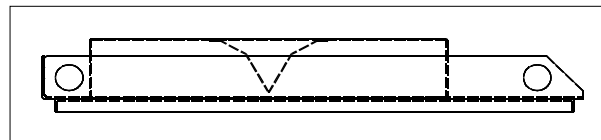

Figure 38. Roof structure seen from the side
**NOTE!** If a flat roof is used, mount a V-shaped air guide on the underside of the roof to direct the air flow horizontally. See Figure 38.